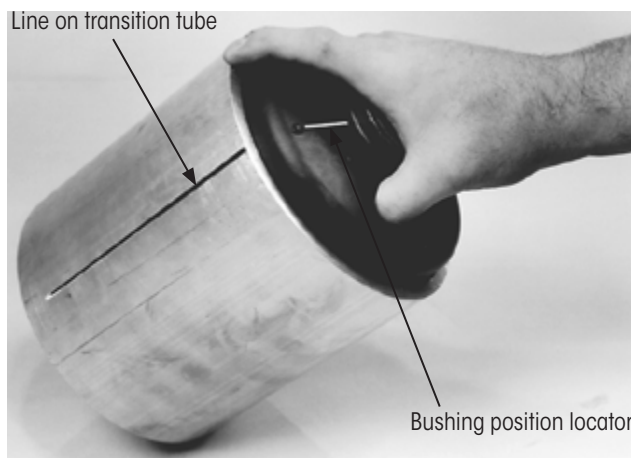
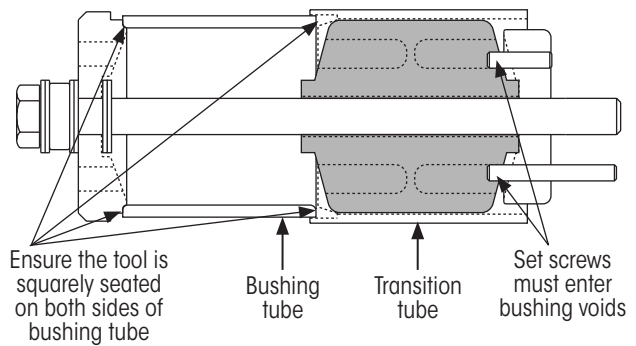
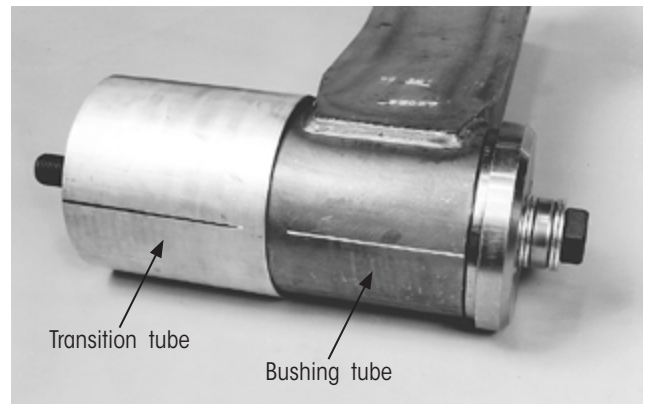

Figure 29: Inserting replacement bushing into transition tube
Figure 35: Ensure tool is square on both sides of bushing tube
Figure 36: Align lines for proper bushing orientation
3. **Insert** the bushing into the transition tube (Figure 29).
4. **Align** the position locator on the bushing with the line drawn on the transition tube as shown in Figure 29.
3. **Slide** the transition tube and bushing assembly onto the hex head bolt (Figure 32) and position it to be square seated against the bushing tube as shown in Figure 35.
4. **Align** the line drawn on the transition tube (step 1 on page 15) with the line drawn on the bushing tube (step 2 on page 9) as shown in Figure 36.
5. **Ensure** the bushing position locator (Figure 29 on page 15) is aligned with the line on the transition tube and bushing tube (Figure 36).
7. **Thread** the rear drive plate (concave side first) onto the hex head bolt (Figure 35).
- B. The transition tube is squarely seated on and aligned with the other side of the bushing tube (Figure 35 and Figure 36).
- D. Rear drive plate alignment groove (Figure 39) is aligned with lines on the transition tube and bushing tube (Figure 36).